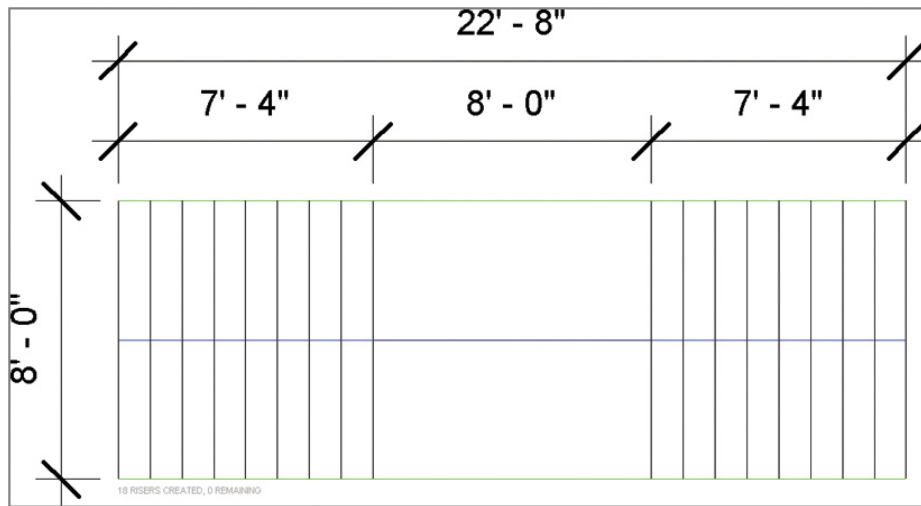

FIGURE 4.20 Stair sketch for hosting the center railing
1. Create the stair shown in Figure 4.20 using either stair tool. Notice the landing as well as the extra width that will easily allow traffic in both directions. Finish the sketch by clicking the green check on the Modify tab of the ribbon.